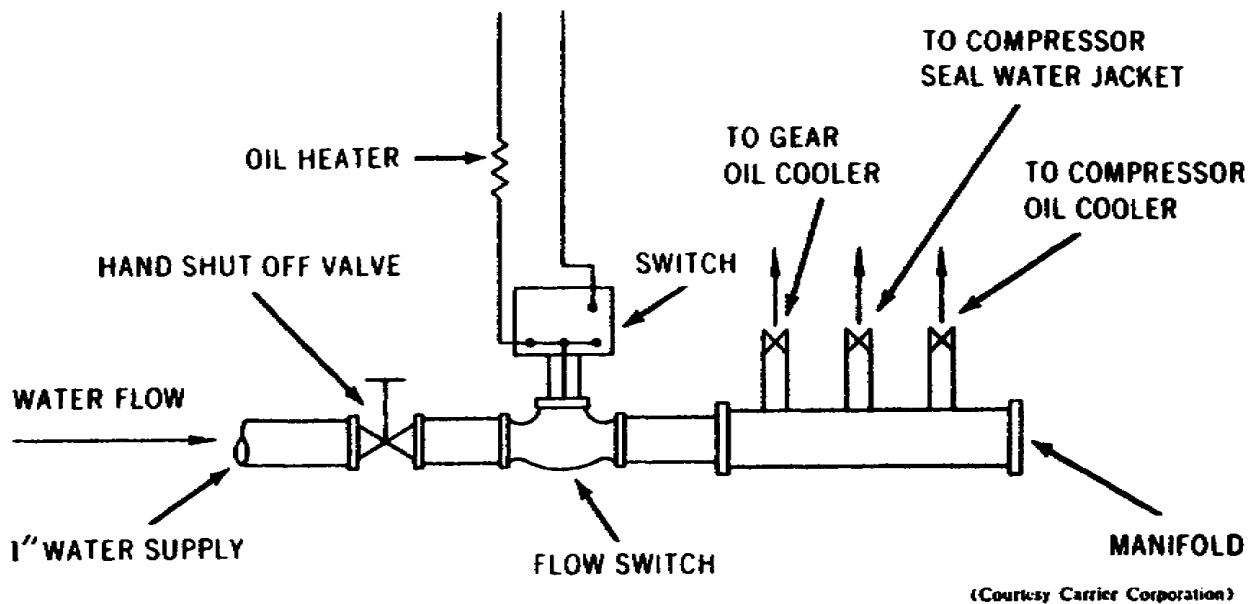

Figure 46. Compressor oil heater.
14. The air vent and vacuum breaker (27) admits atmospheric pressure during shutdown to the seal oil reservoir to maintain a head of oil on the seal. It operates as a gravity check valve.
The oil heater (31) heats the oil during shutdown to prevent excessive absorption of refrigerant by the oil. A flow switch located in the water supply to the oil cooler manifold automatically turns the heater on when the water supply is shut off by hand, and cuts the heater off when the water is turned on. A schematic diagram of the oil heater is shown in figure 46. The oil cooler (19) cools the oil as it is returned to the pump chamber during operation. Bearing thermometers 24 and 25 indicate the temperature of the shaft bearings. Oil rings 20 and 21—also shown in figure 45—bring additional oil from the bearing wells to the shaft. Relief valve 26 in the oil pump discharge line relieves any unusually high pressure that may occur accidentally, and thus protects the system against any damage.